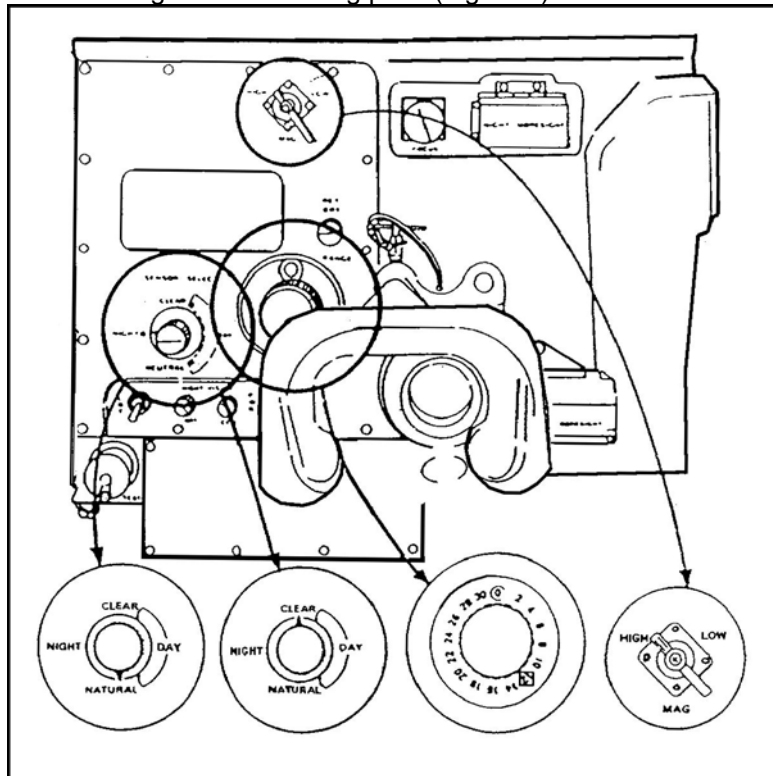

Figure 8. TOW boresight adjustment screw.
- a. Turn the TOW boresight adjustment screw, using 1/8-inch flat-tip screwdriver, until the elevation crosshair aligns on the aiming point (Figure 8).